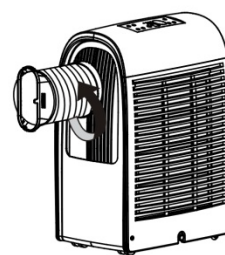

Fig.04
4. Rotate the hose clockwise, as shown in "Fig.04", directly onto the heat clip ring.